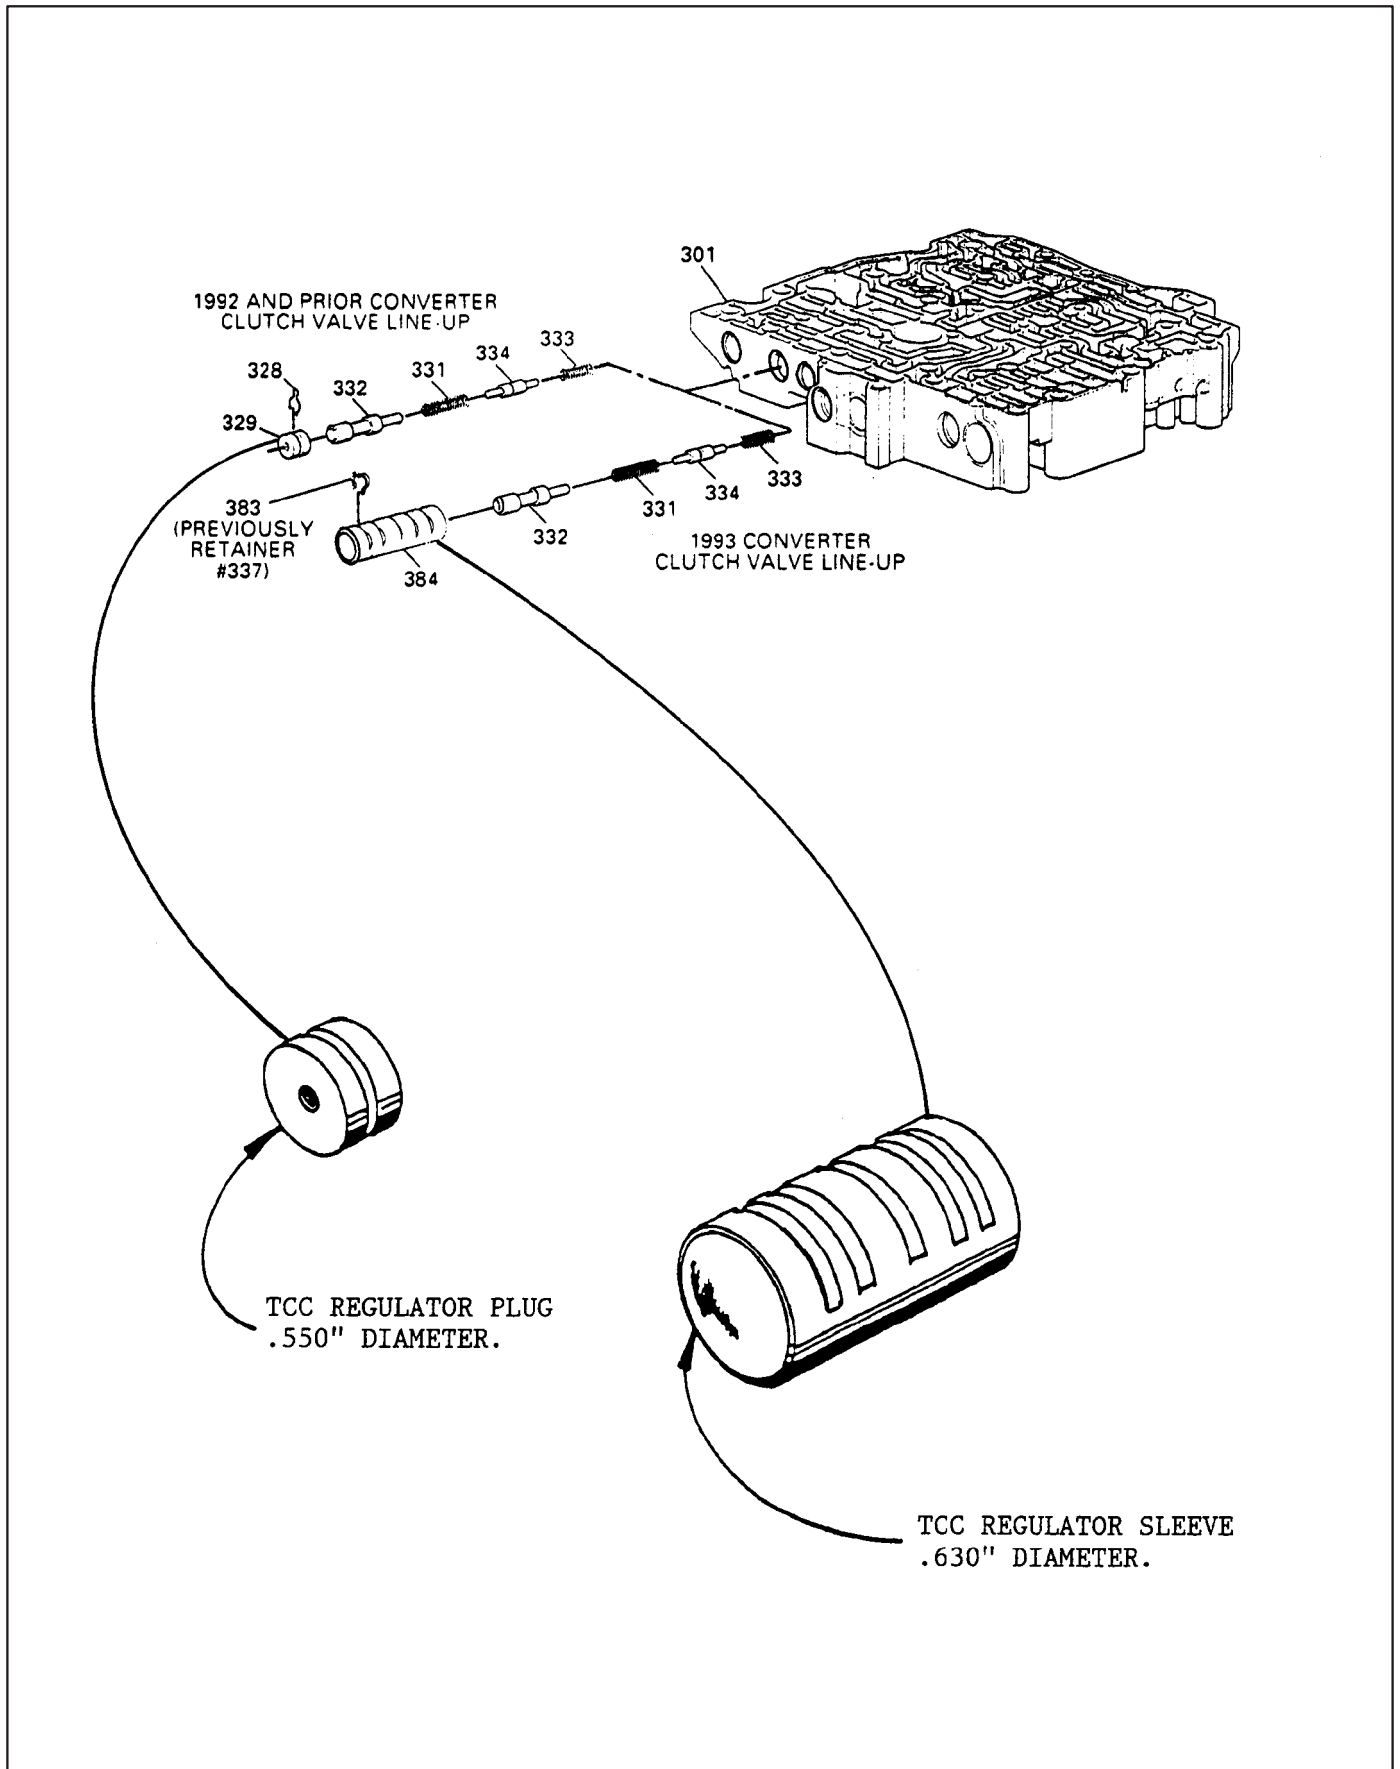

Figure 2
(1) **VALVE BODY CASTING** - The aluminum plug and retainer clip for the converter clutch regulator valve were eliminated and replaced with a new bushing. and a new style retainer. This makes it much easier to remove this line-up out of its valve body bore (See Figure 1). The 1-2 accumulator valve bushing (Both Primary and Secondary). the 2-3 accumulator valve bushing, and the 3-4 accumulator valve bushing were also re-designed for improved shift feel. These changes required changes in the worm tracks in the valve body casting, and the easiest way to identify the 1993 valve body is the diameter of the TCC regulator valve bore as shown in Figure 2.